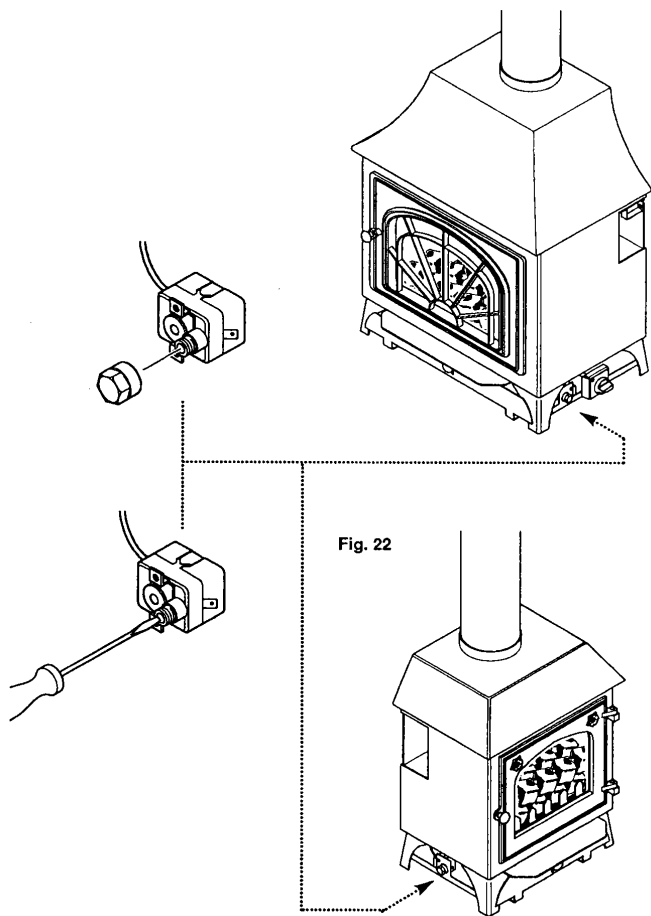

Fig. 22
6.3 Spillage Monitoring Device (Fig. 22)